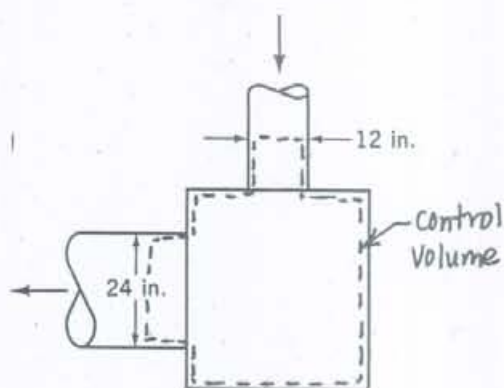

FIGURE P5.101
5.101 Water flows through a valve (see Fig. P5.101) at the rate of 1000 lbm/s. The pressure just upstream of the valve is 90 psi and the pressure drop across the valve is 5 psi. The inside diameters of the valve inlet and exit pipes are 12 and 24 in. If the flow through the valve occurs in a horizontal plane, determine the loss in available energy across the valve.